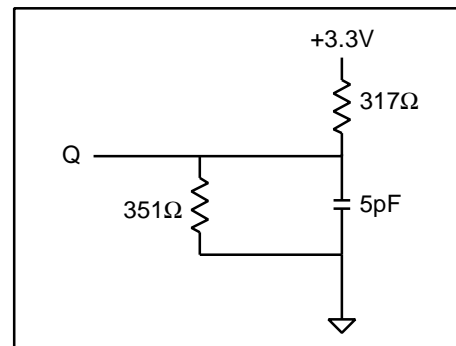

Figure 2
4. The load used for V_{OH}, V_{OL} testing is shown in Figure 2. AC load current is higher than the shown DC values. AC I/O curves are available upon request.
2. Output loading is specified with C1=5pF as in Figure 2.